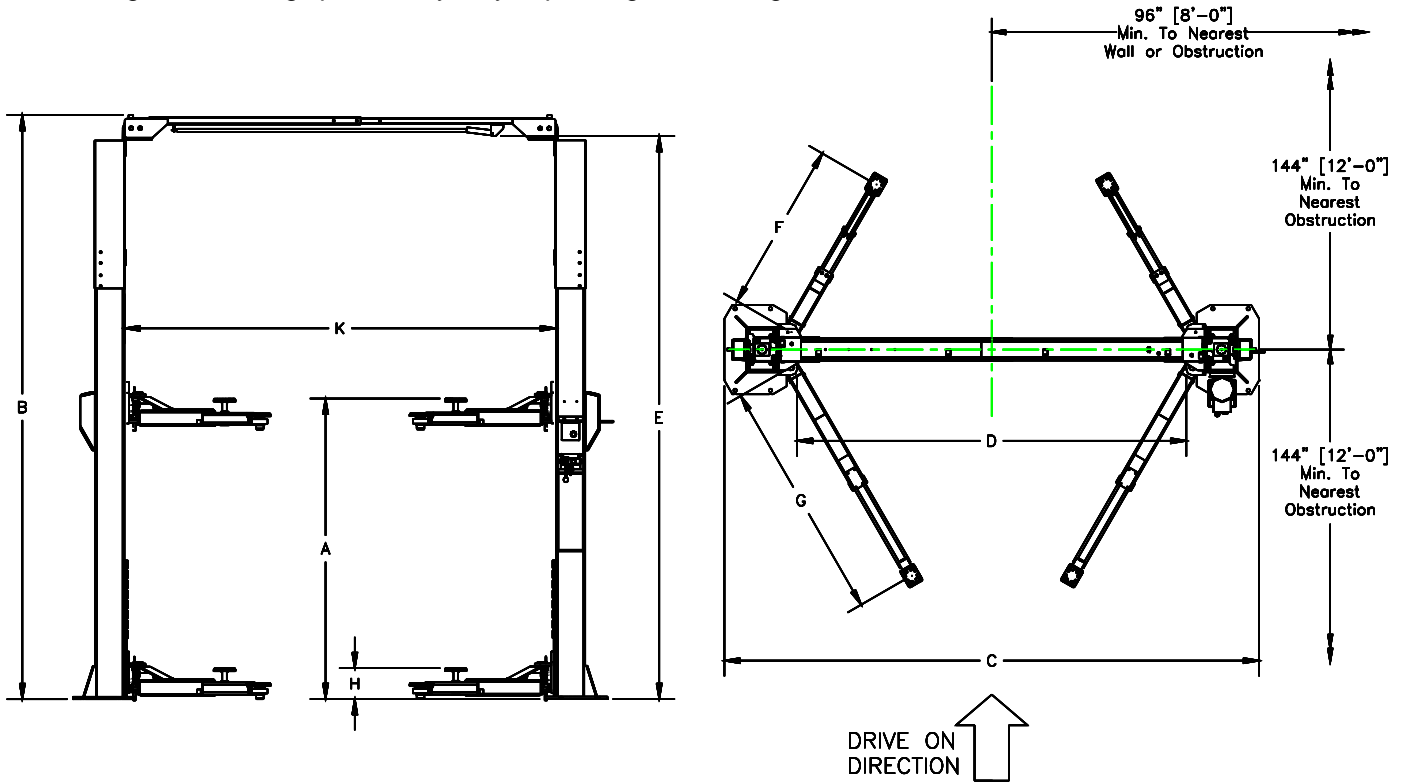
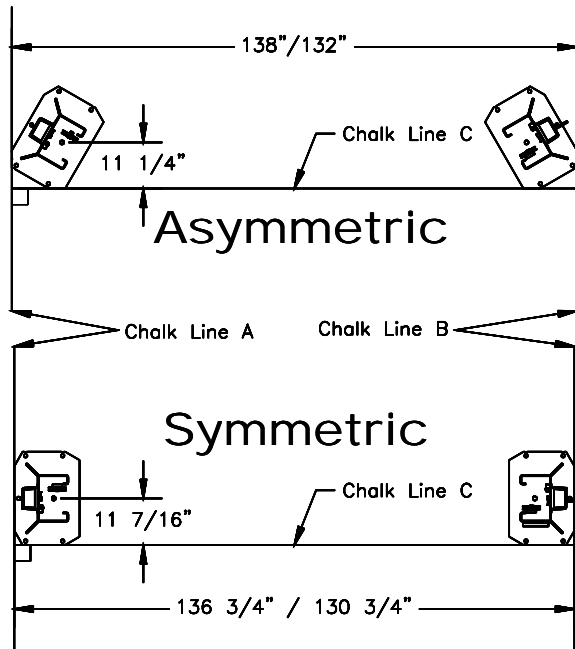

Fig 1 - General Specifications / Service Bay Layout
Fig 3 - Layout
- 1) Layout the service bay according to the architect's plans or owners instructions (**see Fig 1**). **Failure to install in this orientation can result in personal and property damage.** Be certain that the proper conditions exist, see page 3.
- Refer to **Fig 1**. Using the Overall Width (C) Dimension, chalk two parallel lines (A & B) on the floor within 1/8" tolerance. Chalk a third line (C) perpendicular to lines A & B to designate fore and aft location. Erect both column assemblies. Align the base plate edges to the chalk lines as seen in **Fig 3** below.
- Recheck "Overall Width" dimension, **Fig 1**. Drill the anchor holes (Power Column Only) using the base plate as a template. Drill through the floor if possible or to a depth of 5 inches minimum.